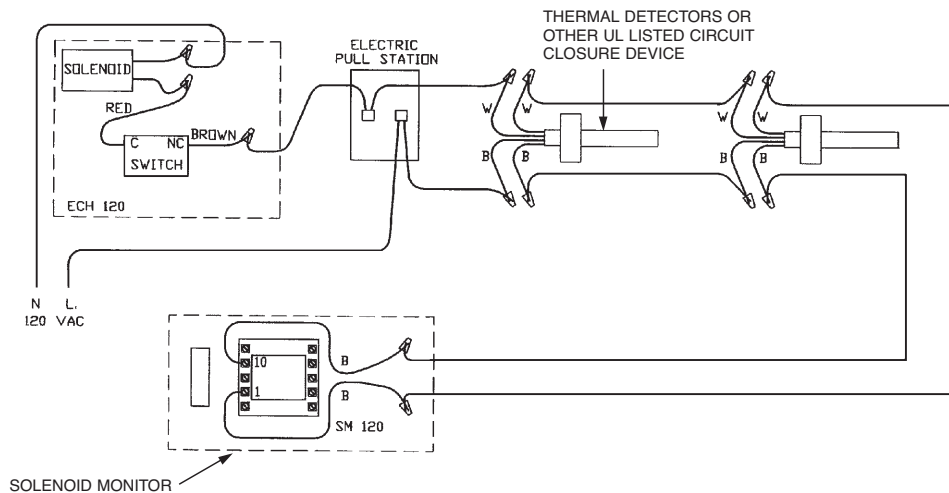

Figure 4-14.1. Wiring Diagram, Solenoid.
- All wire for circuits using the Model SM-120 shall be 14 gauge minimum, or as required by local code. The basic wiring diagram for both the Model SM-24 and Model SM-120 is shown in **Figure 4-14.1**.
The Model RPS-E2 remote electrical pull station is used for remote actuation of the Model ECH3 Control Head. It is to be located near an exit in the path of egress from the hazard area no more than 4 ft (1.2 m) above the floor. The Model RPS-E2 is installed in the detection/actuation circuit and wired in accordance with the instructions included. See Figure 4-14.1 for typical circuit wiring.